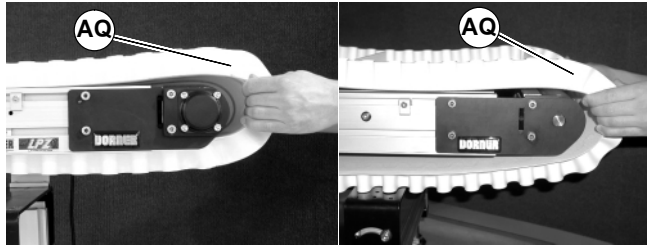

Figure 20
- Remove belt (AQ of Figure 20) from conveyor.